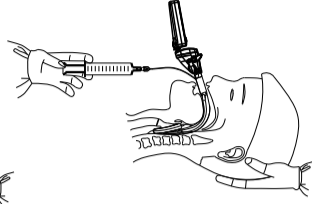

Figure 3.1.4
4. Inflate the cuff through Inflation Valve with an empty syringe. Cuff volume to be injected is suggested in section 2.4 Specifications table. Observe the cuff as it is inflated and contact with supraglottic structure. Use live video to check for a secure supraglottic seal and separation of airway and esophagus track. See figure 3.1.4 .